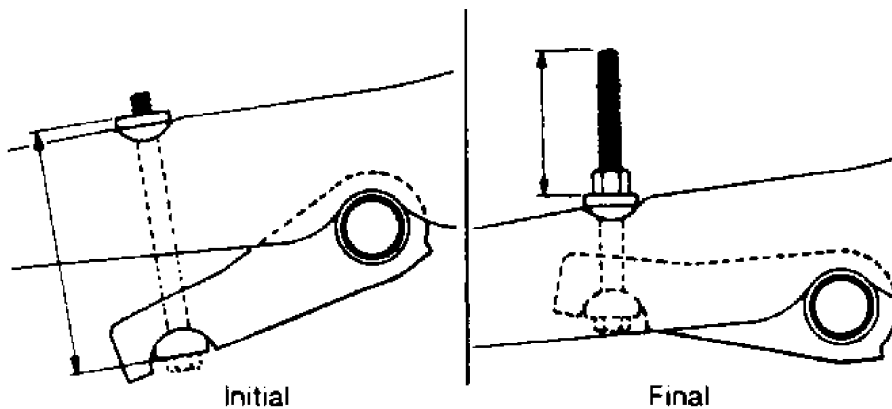

Fig. 5: Adjusting Anchor Arm Bolt
3) Install anchor arm on torsion bar so initial length of adjusting bolt from flat surface of upper and lower half moon washers is within specification. See Fig. 5.